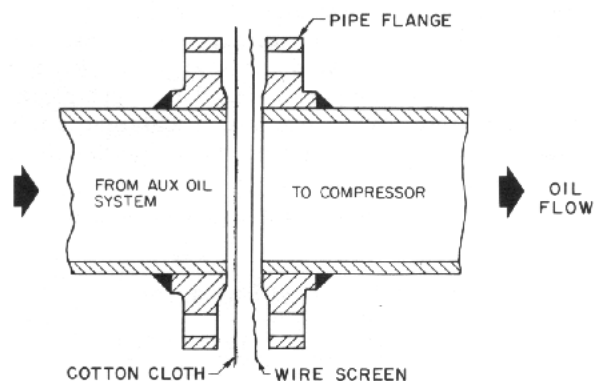

Fig. 1 — Flushing Filter
- Figure 1 — Flushing Filter**
2. Add cloth strainer to the oil supply line to the compressor (Fig. 1). A milk filter disc, available at dairy supply house or local dairy, is satisfactory.